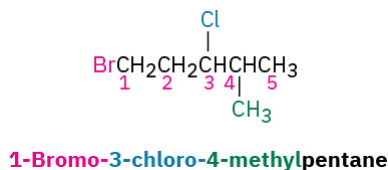

Figure 20.5g. Numbering the carbon chain 1-Bromo-3-chloro-4-methylpentane (credit: Organic Chemistry \(OpenStax\), CC BY-NC-SA 4.0).
3. If different halogens are present, number each one and list them in alphabetical order when writing the name as shown in Figure 20.5g.